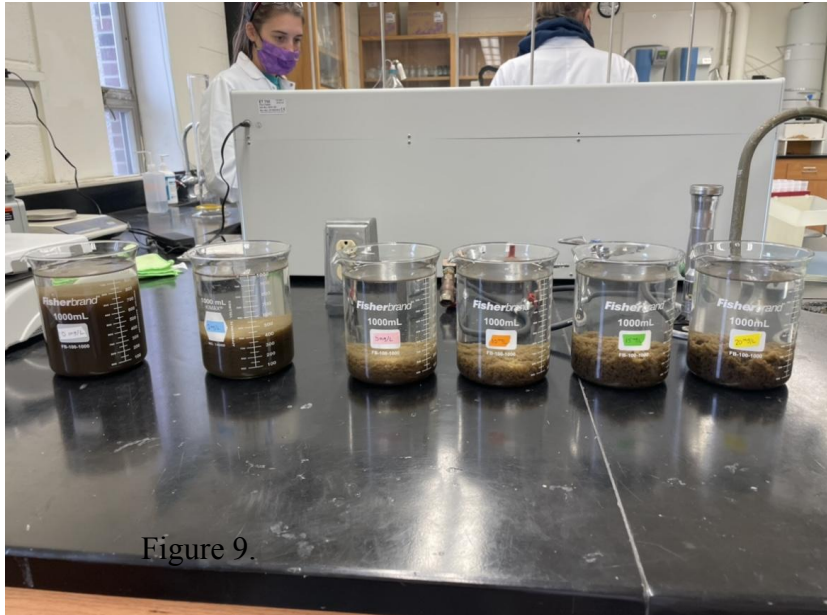

Figure 9.
- Figure 9. Lord, Alexa. *Sludge Settling Lab MSU*. 2021, MSU Environmental Engineering Laboratory, Bozeman, Montana.